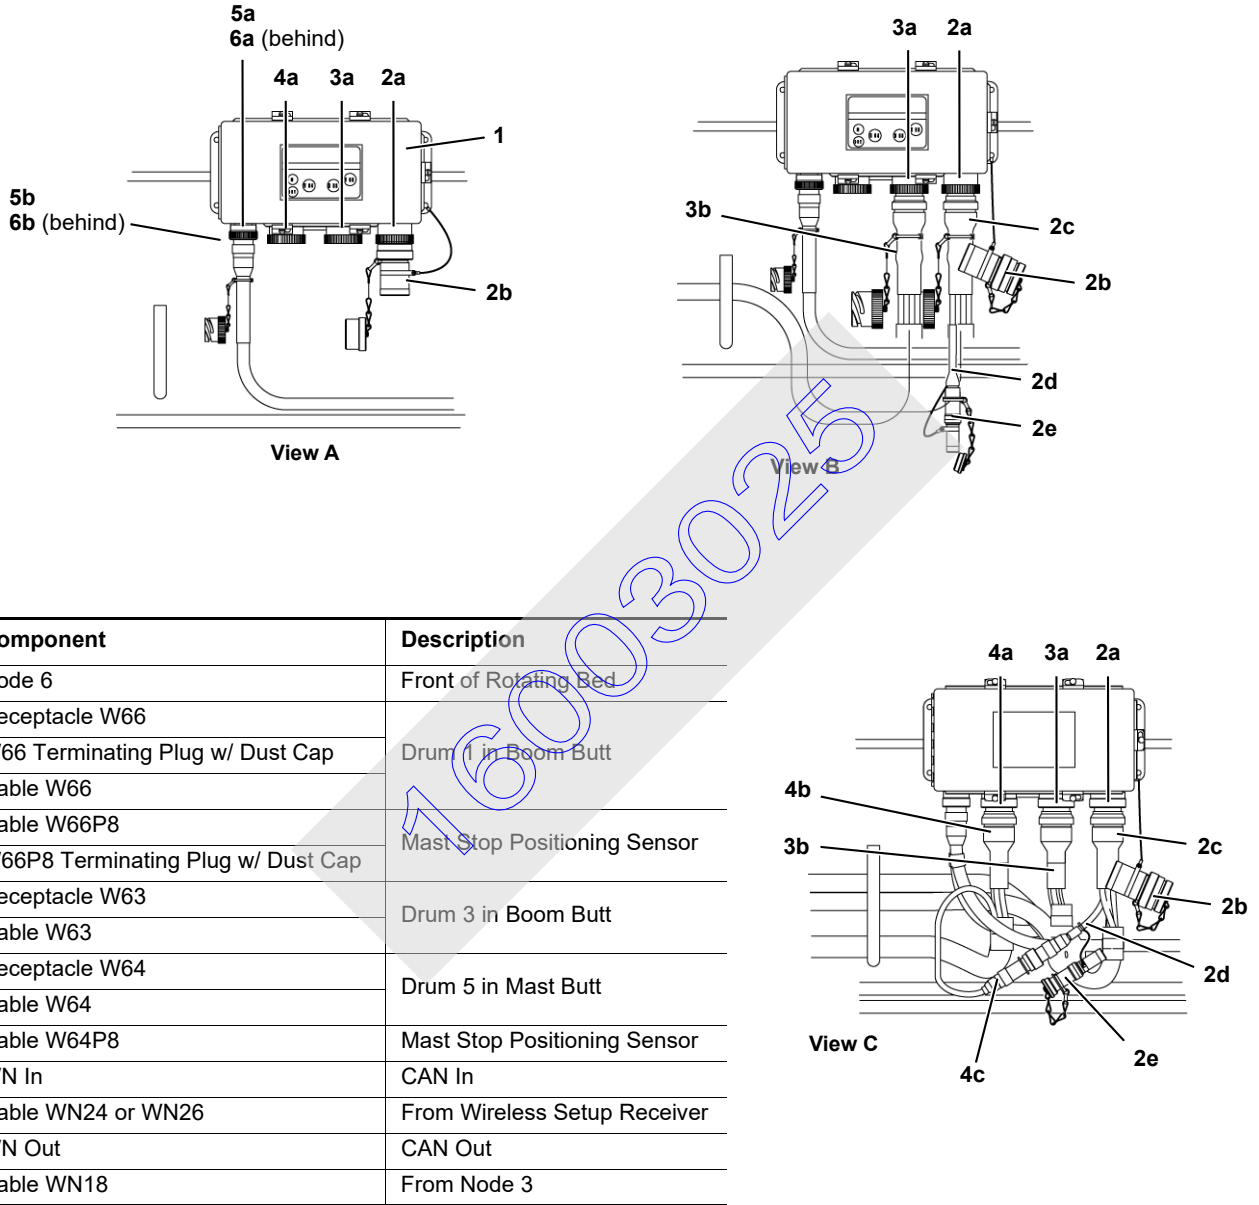

FIGURE 4-5
- Remove protective caps from five hydraulic hoses (9, View D) on mast butt and from five couplers (10) on rotating bed. **Thoroughly clean couplers.**
**NOTE:** Refer to Figure 4-5 for electrical connections on current production cranes with software version M002066 or newer.
See Figure 4-5 for the following procedure.